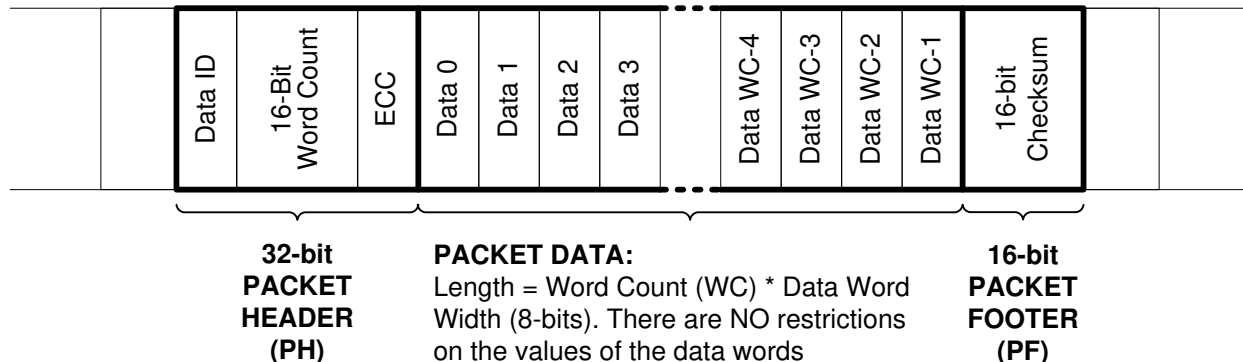

图 7-8. CSI-2 Long Packet Structure
A long packet consists of three elements: a 32-bit packet header (PH), an application-specific data payload with a variable number of 8-bit data words, and a 16-bit packet footer (PF). The packet header is further composed of three elements: an 8-bit data identifier, a 16-bit word count field, and an 8-bit ECC. The packet footer has one element, a 16-bit checksum. 图 7-8 shows the structure of a long packet.